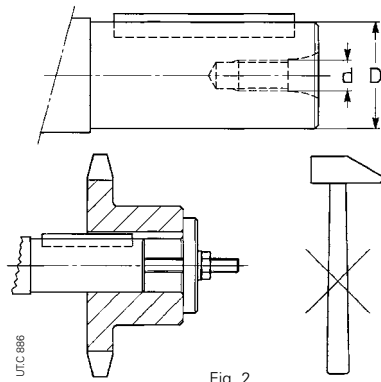

Fig. 2
**Attention!** Installing and removal operations should be carried out with the aid of **jacking screws** and **pullers** using the tapped hole at the shaft butt-end (see table in fig. 2) taking care to avoid impacts and shocks which may **irremediably damage the bearings, the circlips** or other parts, for H7/m6 and K7/j6 fits it is advisable that the part to be keyed is preheated to a temperature of  $80 \div 100$  °C.